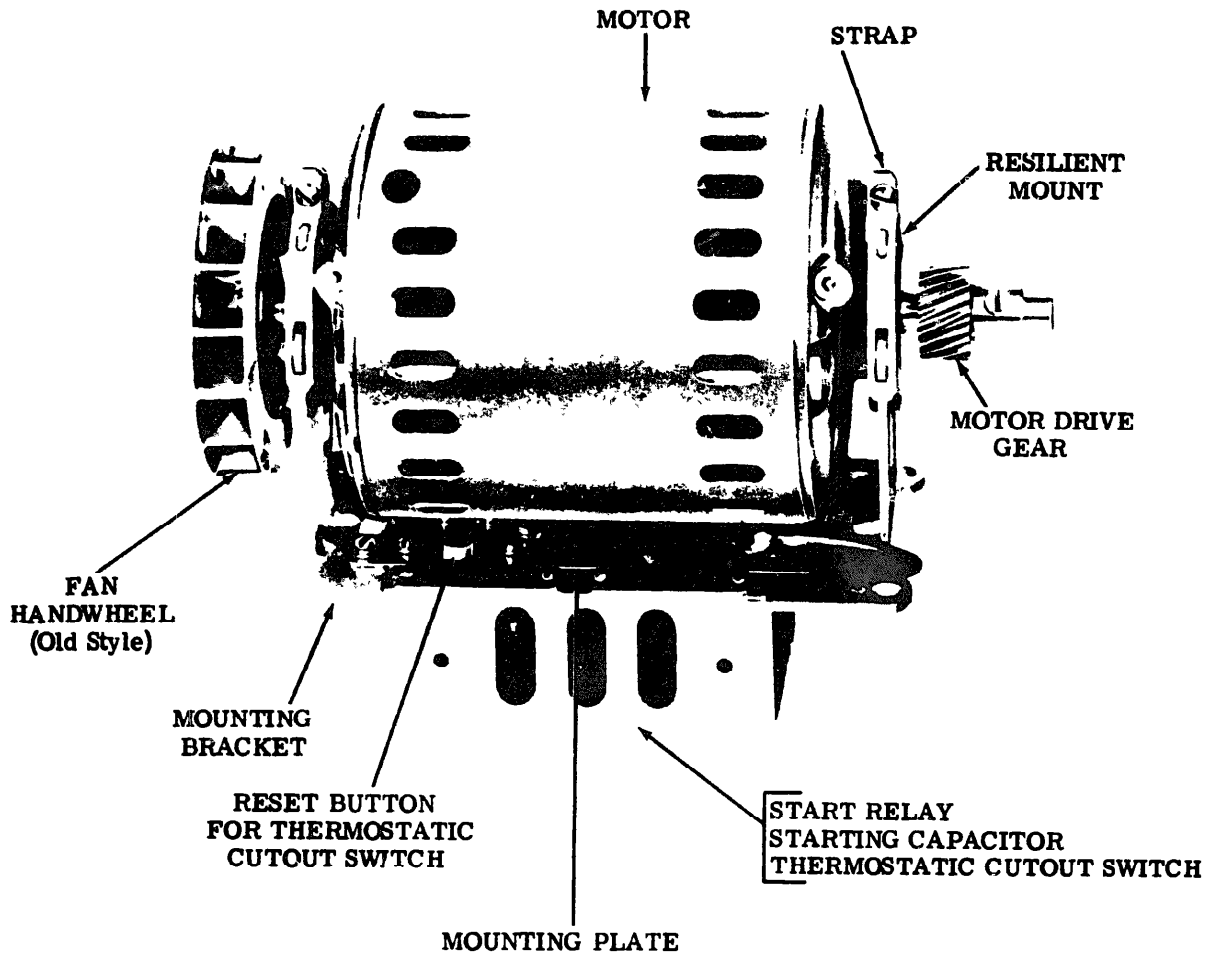
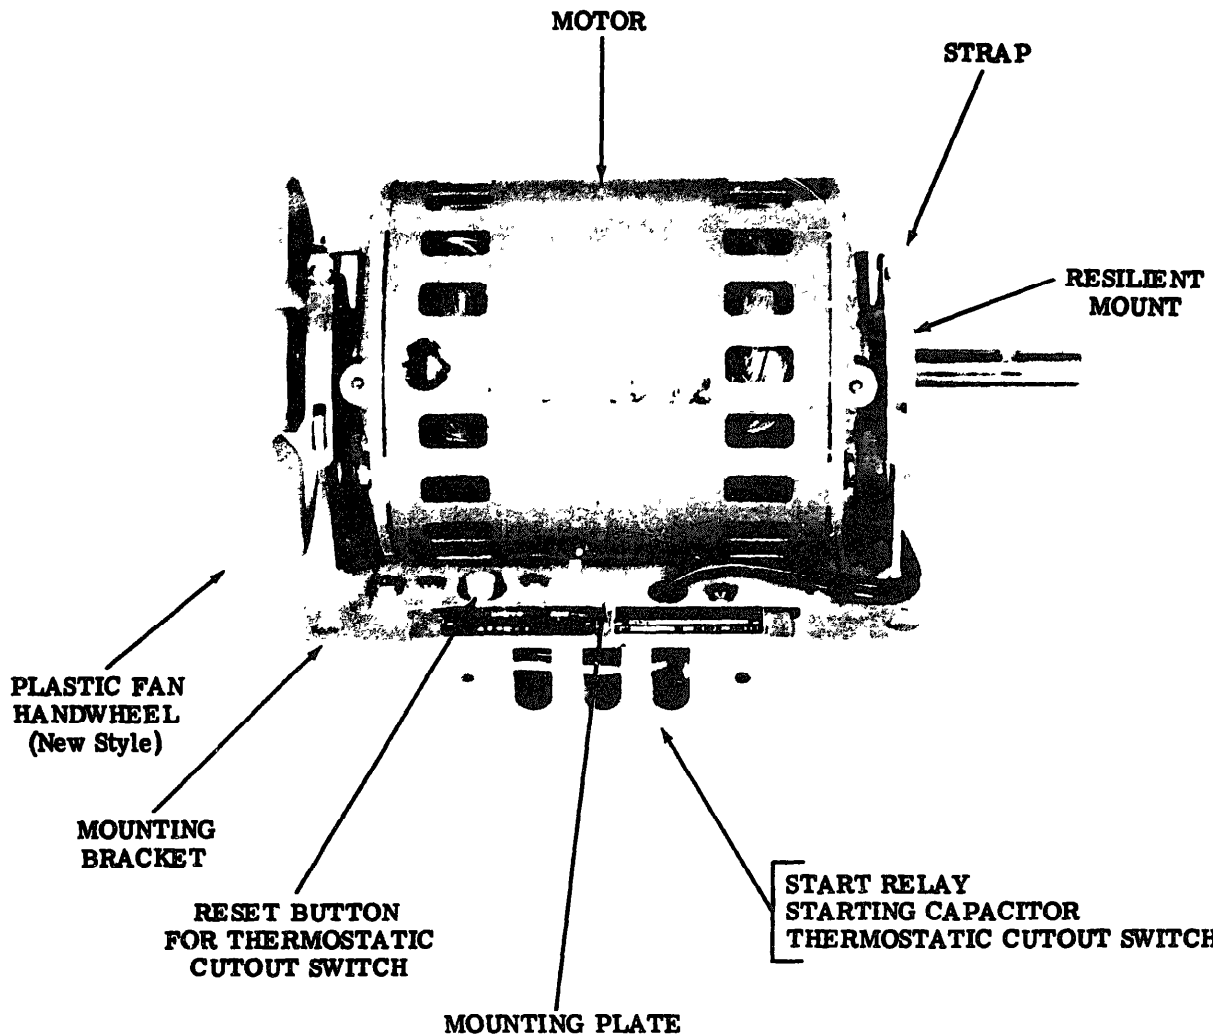

Figure 2- typical Standard or Heavy Duty Synchronous Motor Unit
Figure 3. Typical or Heavy Duty Synchronous Motor Unit
2.04 The standard and heavy duty synchronous motor units (Figure 2) consists of a two-pole wound stator and two end shields that support a ball bearing rotor. A combination handwheel and fan (new-style handwheel and fan is made of plastic — Figure 3) is mounted on the motor shaft, and two fans are mounted at each end of